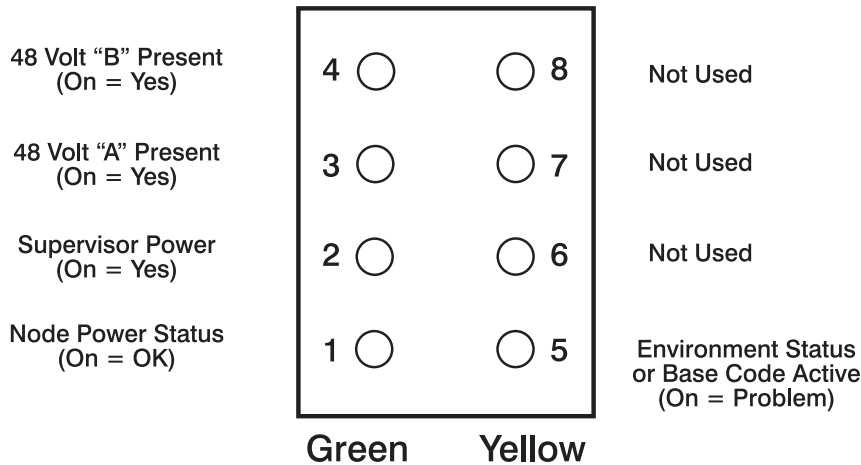

Figure 3-1. POWER3 SMP High Node LEDs
2. Locate LED 5. See Figure 3-1 on page 3-12.